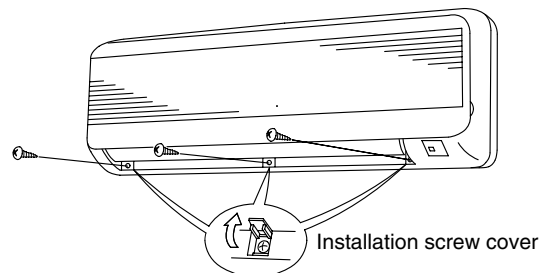

Fig. 3-65
- (3) Adjust the flap so that it is horizontal. (Fig. 3-65)
- (4) Open the installation screw covers below the grille (3 locations). (Fig. 3-65)
- (5) Remove the screws. (Fig. 3-65)